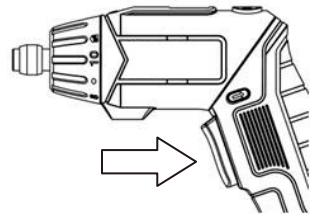

Fig. 4
- > Switch the product on by pressing the on / off trigger switch (2)(Fig.4).
- > Switch the product off by releasing the trigger switch (2).